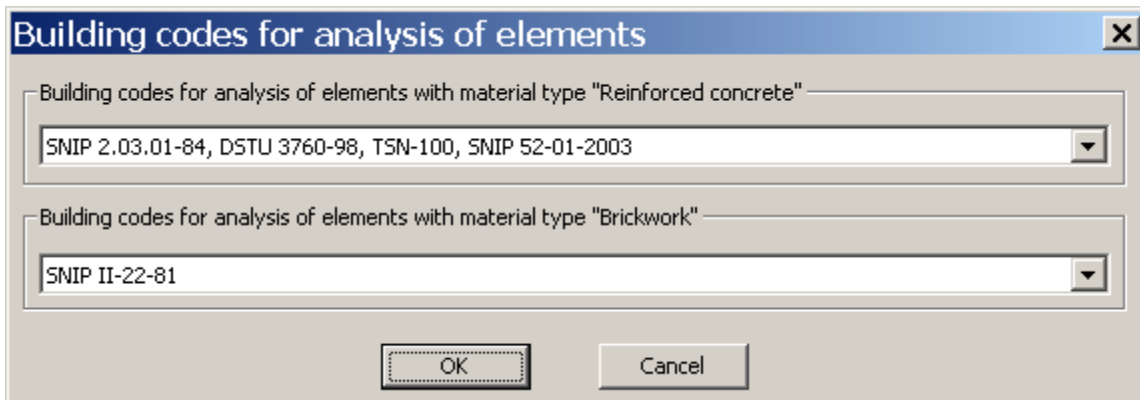

Figure 1.1.1 **Building codes for analysis of elements** dialog box
- ⇒ Select building codes necessary for analysis. In the **Building codes for analysis of elements** dialog box (see Fig.1.1.1), remain all parameters by default and click **OK**.